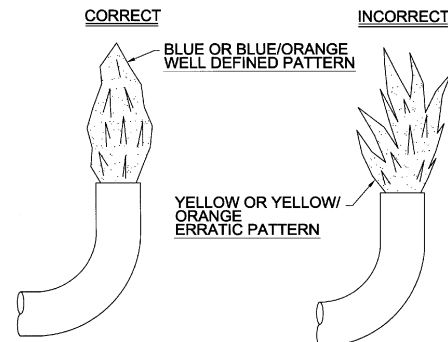

Figure 11
- A. Main Burner:** Do not allow the burner to burn with a yellow flame, because sooting will occur. (See Safety Warnings). If the burner flame is yellow and has an erratic pattern, shut unit down and contact a qualified service agency. Do not continue operating unit with improper burner flame. (See Figure 11 for correct and incorrect burner flame appearance.)